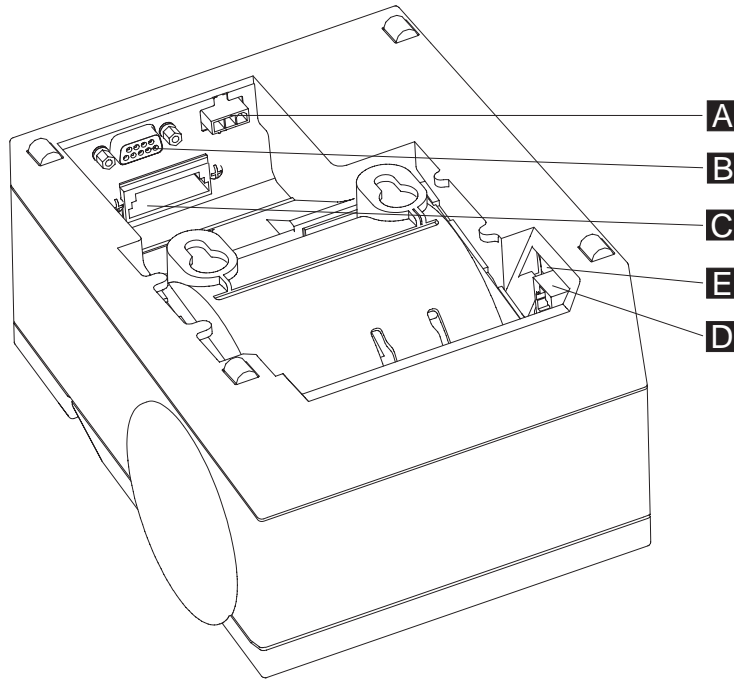

Figure 36. 4610 TF6 or TF7 printer connector locations
Figure 36 shows the 4610 TF6 or TF7 printer connectors.
4. Check the printer RS-232 mode-switch setting for the printer. It is near the rear cable connections. See **E** in Figure 36 for switch location. For switch settings, see the *IBM 4610 SureMark Point-of-Sale Printers User’s Guide*.